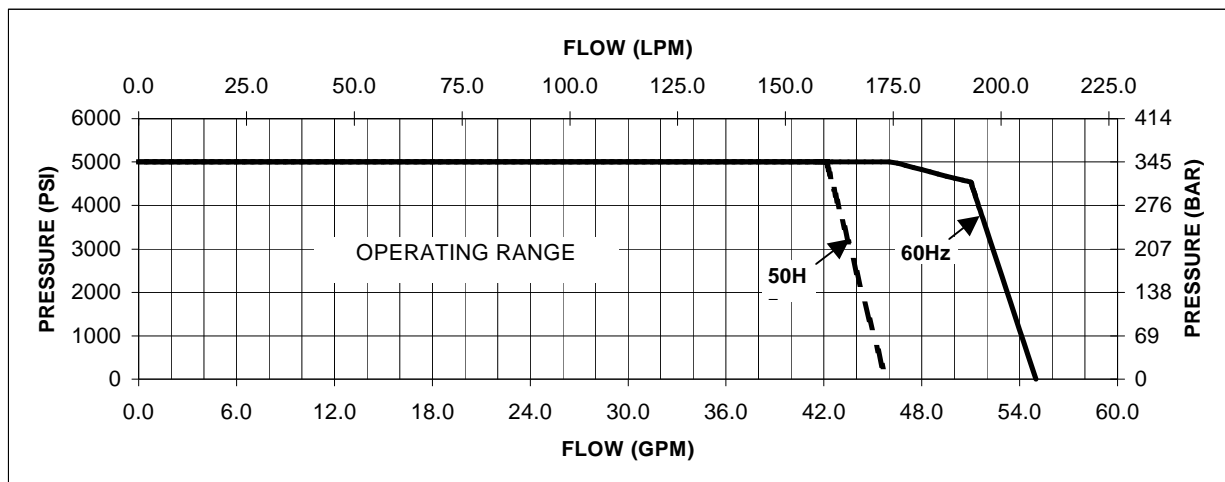

FIGURE 6.2.3 – Performance Curve (50 Hz and 60 Hz)
- Performance Curve for 50 Hz and 60 HzReference **Figure 6.2.3**